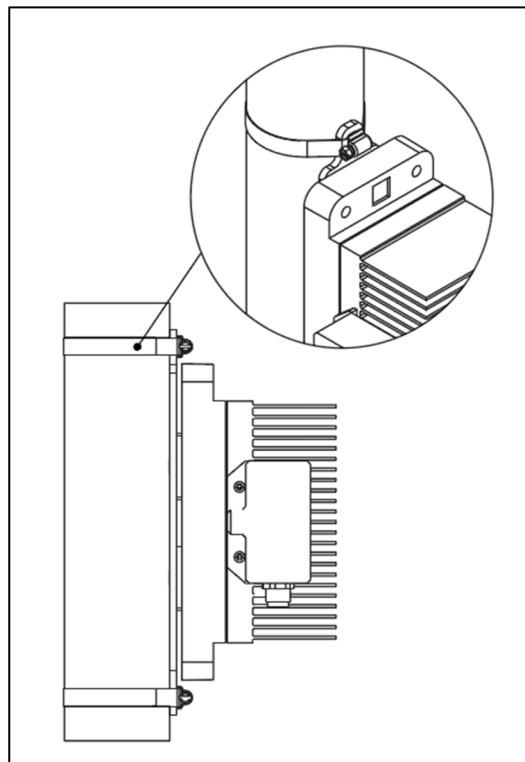
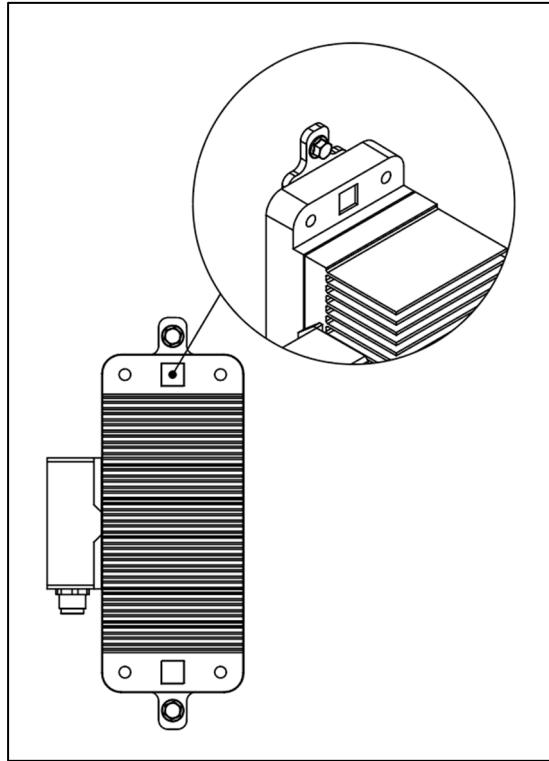

Figure 8.- InduEye® TG Duo module - Cylindrical mounting option with a metal clamp
Figure 9.- InduEye® TG Duo module - Flat mounting option with a screw
2. For the installation on a circular surface, it is necessary to use a metal clamp that fits the mounting pipe as shown in Figure 8.
3. For installation on a flat surface, it is necessary to drill a hole, taking as a reference the distance between the holes in the top and lower tabs, and insert a screw with a 6mm maximum diameter through the accessory as shown in Figure 9.
4. Insert the screws or metal clamps on the top and lower tabs, as shown on Figure 8 and Figure 9, and tighten them until the module is properly fixed.